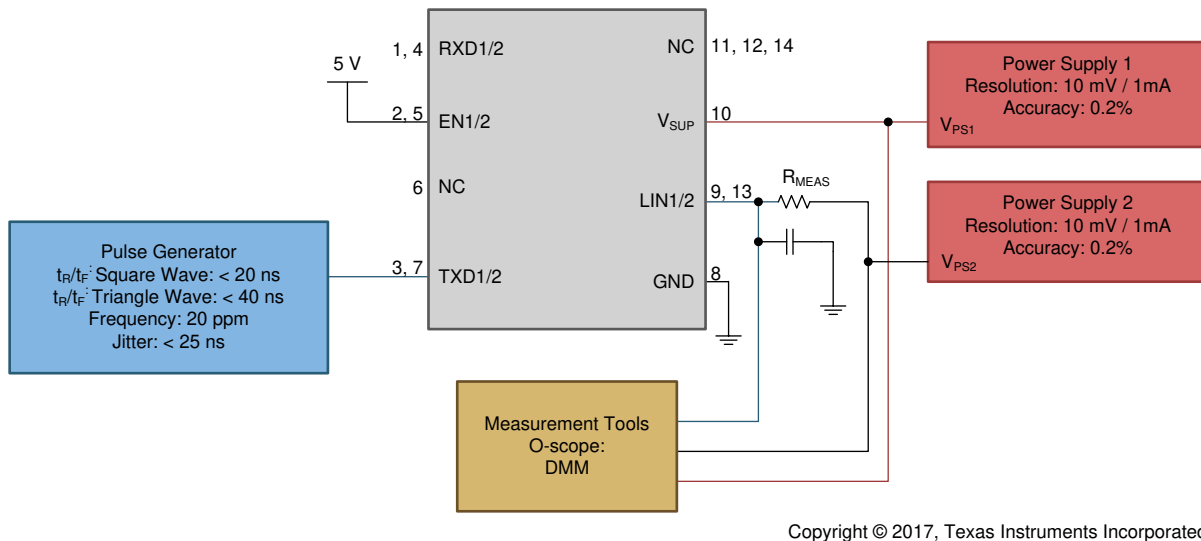

图 18. Test Circuit Slope Control and Duty Cycle Parameters 27, 28, 29, 30
| D1 12V | Duty Cycle 1 (ISO/DIS 17987 Param 27) (1) | $TH_{REC(MAX)} = 0.744 \times V_{SUP}$ , $TH_{DOM(MAX)} = 0.581 \times V_{SUP}$ , $V_{SUP} = 7\text{ V to }18\text{ V}$ , $t_{BIT} = 50\text{ }\mu\text{s}$ (20 kbps), $D1 = t_{BUS\_rec(min)}/(2 \times t_{BIT})$ (See <a href="#">Figure 18</a> and <a href="#">Figure 19</a> )     | 0.396 |     |       |      |
| D1 12V | Duty Cycle 1                                         | $TH_{REC(MAX)} = 0.625 \times V_{SUP}$ , $TH_{DOM(MAX)} = 0.581 \times V_{SUP}$ , $V_{SUP} = 4\text{ V to }7\text{ V}$ , $t_{BIT} = 50\text{ }\mu\text{s}$ (20 kbps), $D1 = t_{BUS\_rec(min)}/(2 \times t_{BIT})$ (See <a href="#">Figure 18</a> and <a href="#">Figure 19</a> )      | 0.396 |     |       |      |
| D2 12V | Duty Cycle 2 (ISO/DIS 17987 Param 28)                | $TH_{REC(MIN)} = 0.422 \times V_{SUP}$ , $TH_{DOM(MIN)} = 0.284 \times V_{SUP}$ , $V_{SUP} = 7.6\text{ V to }18\text{ V}$ , $t_{BIT} = 50\text{ }\mu\text{s}$ (20 kbps), $D2 = t_{BUS\_rec(MAX)}/(2 \times t_{BIT})$ (See <a href="#">Figure 18</a> and <a href="#">Figure 19</a> )   |       |     | 0.581 |      |
| D3 12V | Duty Cycle 3 (ISO/DIS 17987 Param 29)                | $TH_{REC(MAX)} = 0.778 \times V_{SUP}$ , $TH_{DOM(MAX)} = 0.616 \times V_{SUP}$ , $V_{SUP} = 7\text{ V to }18\text{ V}$ , $t_{BIT} = 96\text{ }\mu\text{s}$ (10.4 kbps), $D3 = t_{BUS\_rec(min)}/(2 \times t_{BIT})$ (See <a href="#">Figure 18</a> and <a href="#">Figure 19</a> )   | 0.417 |     |       |      |
| D3 12V | Duty Cycle                                           | $TH_{REC(MAX)} = 0.645 \times V_{SUP}$ , $TH_{DOM(MAX)} = 0.616 \times V_{SUP}$ , $V_{SUP} = 4\text{ V to }7\text{ V}$ , $t_{BIT} = 96\text{ }\mu\text{s}$ (10.4 kbps), $D3 = t_{BUS\_rec(min)}/(2 \times t_{BIT})$ (See <a href="#">Figure 18</a> and <a href="#">Figure 19</a> )    | 0.417 |     |       |      |
| D4 12V | Duty Cycle 4 (ISO/DIS 17987 Param 30)                | $TH_{REC(MIN)} = 0.389 \times V_{SUP}$ , $TH_{DOM(MIN)} = 0.251 \times V_{SUP}$ , $V_{SUP} = 7.6\text{ V to }18\text{ V}$ , $t_{BIT} = 96\text{ }\mu\text{s}$ (10.4 kbps), $D4 = t_{BUS\_rec(MAX)}/(2 \times t_{BIT})$ (See <a href="#">Figure 18</a> and <a href="#">Figure 19</a> ) |       |     | 0.59  |      |
| D1 24V | Duty Cycle 1 (ISO/DIS 17987 Param 27) (1) | $TH_{REC(MAX)} = 0.710 \times V_{SUP}$ , $TH_{DOM(MAX)} = 0.544 \times V_{SUP}$ , $V_{SUP} = 15\text{ V to }36\text{ V}$ , $t_{BIT} = 50\text{ }\mu\text{s}$ (20 kbps), $D1 = t_{BUS\_rec(min)}/(2 \times t_{BIT})$ (See <a href="#">Figure 18</a> and <a href="#">Figure 19</a> )    | 0.33  |     |       |      |
| D2 24V | Duty Cycle 2 (ISO/DIS 17987 Param 28)                | $TH_{REC(MIN)} = 0.446 \times V_{SUP}$ , $TH_{DOM(MIN)} = 0.302 \times V_{SUP}$ , $V_{SUP} = 15.6\text{ V to }36\text{ V}$ , $t_{BIT} = 50\text{ }\mu\text{s}$ (20 kbps), $D2 = t_{BUS\_rec(MAX)}/(2 \times t_{BIT})$ (See <a href="#">Figure 18</a> and <a href="#">Figure 19</a> )  |       |     | 0.642 |      |
| D3 24V | Duty Cycle 3 (ISO/DIS 17987 Param 29)                | $TH_{REC(MAX)} = 0.744 \times V_{SUP}$ , $TH_{DOM(MAX)} = 0.581 \times V_{SUP}$ , $V_{SUP} = 7\text{ V to }36\text{ V}$ , $t_{BIT} = 96\text{ }\mu\text{s}$ (10.4 kbps), $D3 = t_{BUS\_rec(min)}/(2 \times t_{BIT})$ (See <a href="#">Figure 18</a> and <a href="#">Figure 19</a> )   | 0.386 |     |       |      |
| D3 24V | Duty Cycle                                           | $TH_{REC(MAX)} = 0.645 \times V_{SUP}$ , $TH_{DOM(MAX)} = 0.581 \times V_{SUP}$ , $V_{SUP} = 4\text{ V to }7\text{ V}$ , $t_{BIT} = 96\text{ }\mu\text{s}$ (10.4 kbps), $D3 = t_{BUS\_rec(min)}/(2 \times t_{BIT})$ (See <a href="#">Figure 18</a> and <a href="#">Figure 19</a> )    | 0.386 |     |       |      |
| D4 24V | Duty Cycle 4 (ISO/DIS 17987 Param 30)                | $TH_{REC(MIN)} = 0.442 \times V_{SUP}$ , $TH_{DOM(MIN)} = 0.284 \times V_{SUP}$ , $V_{SUP} = 7.6\text{ V to }36\text{ V}$ , $t_{BIT} = 96\text{ }\mu\text{s}$ (10.4 kbps), $D4 = t_{BUS\_rec(MAX)}/(2 \times t_{BIT})$ (See <a href="#">Figure 18</a> and <a href="#">Figure 19</a> ) |       |     | 0.591 |      |